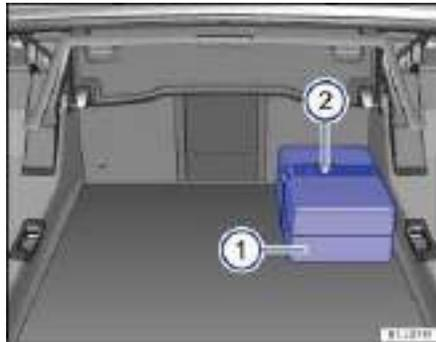

Fig. 178 Tool box 1 and restraining strap 2 on the floor of the luggage compartment 1.
Tool box on the floor of the luggage compartment ⇒ fig. 178 (1):	<ul style="list-style-type: none"> – Close the CSC roof if it is open – To open the tool box, open the clasp and remove the restraining strap (2).